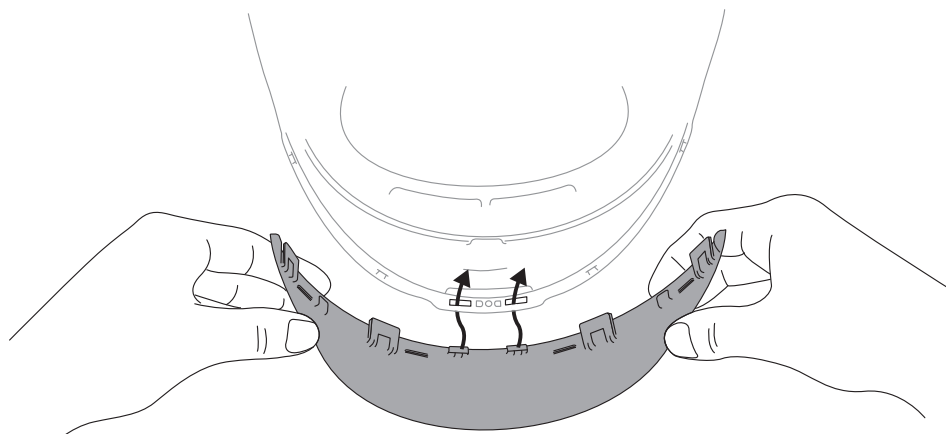
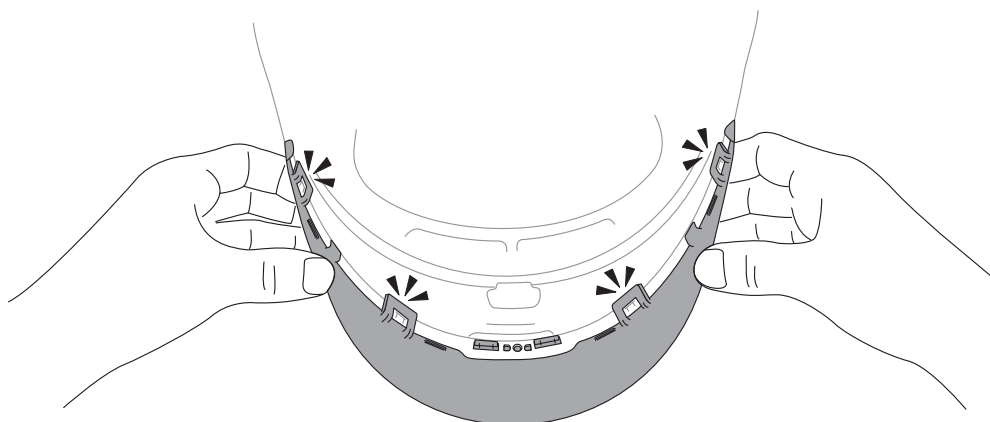
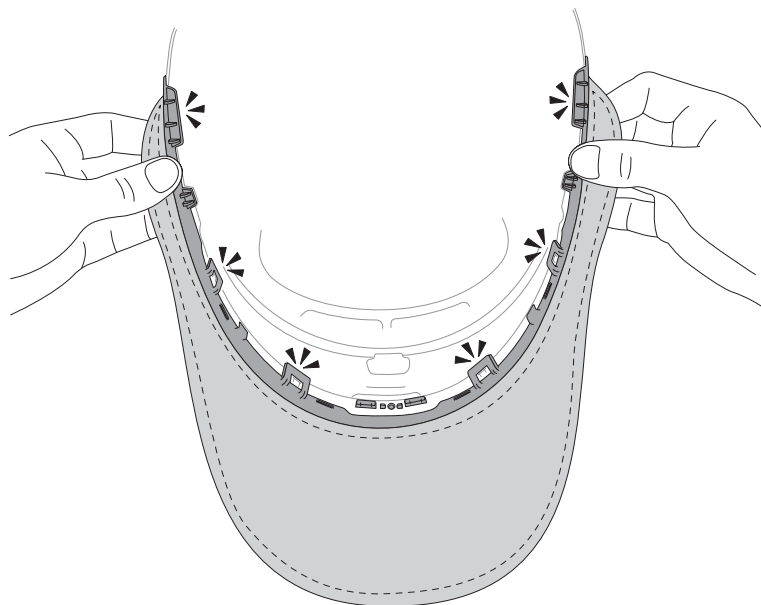

Fig. 30b
Fig. 30c
Fig. 30d
- c. To reinstall the ridged neck cover, first line up to the two small inserts at the center of the neck cover. Next, align the 4 clips along the underside of the neck cover and slide the rigid plastic neck cover into place. Four audible “clicks” are heard. The neck cover is now properly installed (Fig. 30b and 30c).
- d. The fabric or leather neck cover has an extra set of retention clips at the far outer edge. To install the fabric or leather neck cover, line up to the two small inserts at the center of the neck cover as in Fig. 30b. Then click into place the 4 latches as in Fig. 30c and the extra outer clips (Fig. 30d).